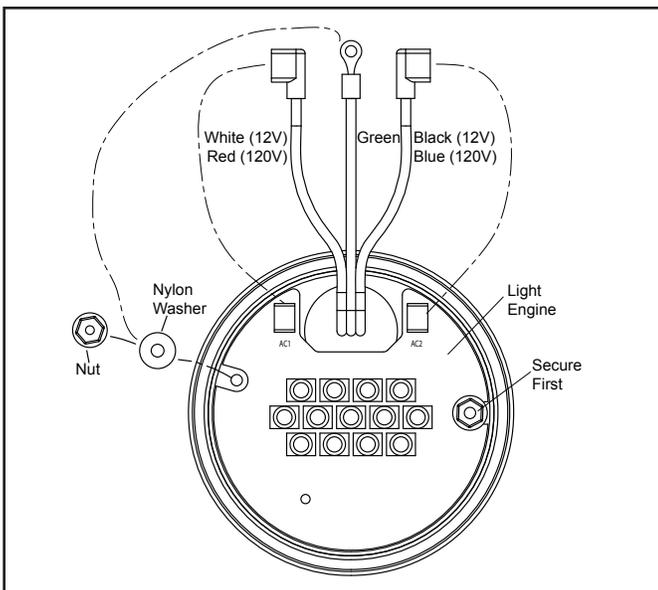
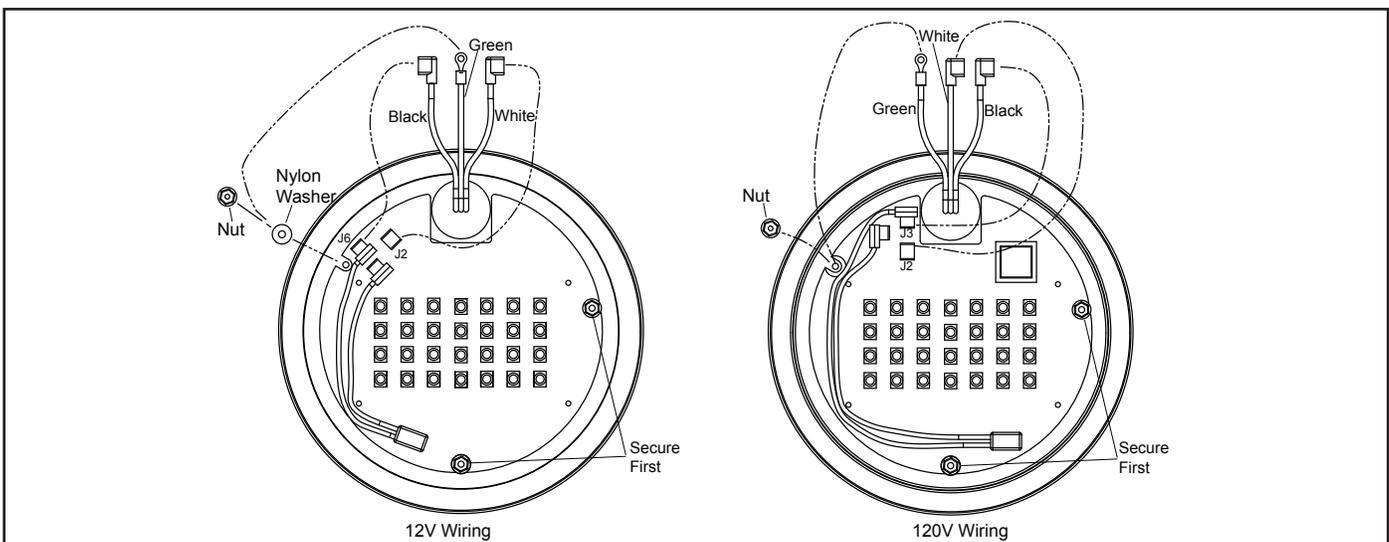

Figure 5. Small Light Engine (PCB) Replacement and Wiring
Figure 6. Large Light Engine (PCB) Replacement and Wiring
- a. Remove two (2) nuts and two (2) washers. Refer to Figure 5.
- d. Place new light engine into the fixture with the orientation shown in Figure 5.
- e. Secure the light engine with one (1) nylon washer and one (1) nut. Torque to 9 in-lbs.
- a. Remove three (3) nuts and washers. Refer to Figure 6.
- d. Place new light engine into the fixture with the orientation shown in Figure 6.
- e. Secure the new light engine (PCB) with two (2) nylon washers and two (2) nuts. Torque to 9 in-lbs.